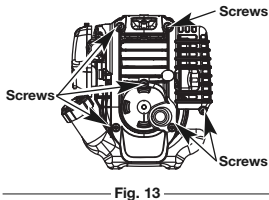

Fig. 13
1. Remove the six (6) screws on the back of the engine cover with a Flat-head or T-25 Torx screwdriver (Fig. 13).
4. Remove the engine cover (Fig. 13).
1. Stop the engine and allow it to cool. Remove the six (6) screws on the back of the engine cover with a Flat-head or T-25 Torx screwdriver (Fig. 13).